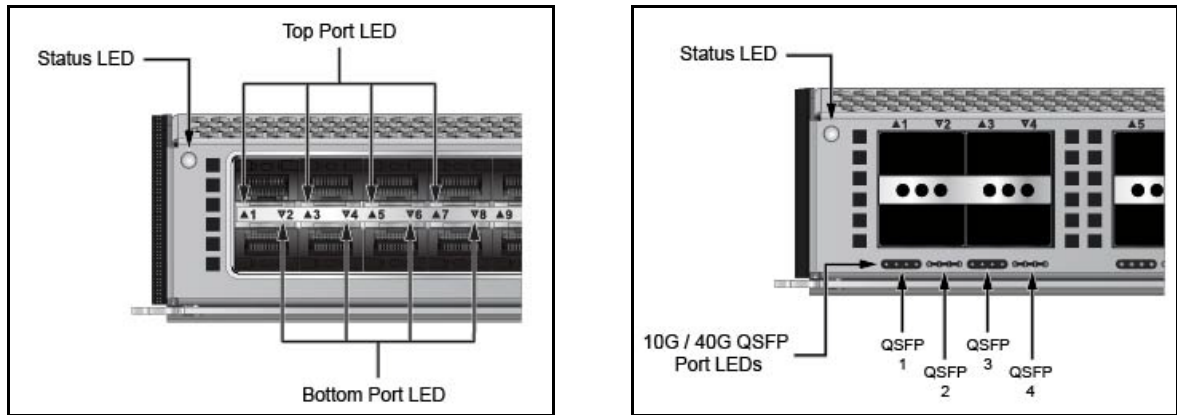

Figure 20: Linecard Status LEDs (DCS-7300X-LS and DCS-7300X-32Q-LC)
Each linecard module provides one status LED plus LEDs for each port on the card. The figures in Appendix F indicate the location of the LEDs on each linecard. Figure 20-left displays the status LED and Port LEDs on the left side of the DCS-7300X-64S-LC linecard. Figure 20-right displays the status LED and Port LEDs on the left side of the DCS-7300X-32Q-LC linecard.
- Figure 20-left displays SFP module LEDs. Each LED corresponds to a module.
- Figure 20-right displays QSFP module LEDs. A set of four LEDs correspond to each module. When the module is programmed as a 40G port, the first LED in the set reports status. When the module is programmed as four 10G ports, each port is assigned to an LED within the set.